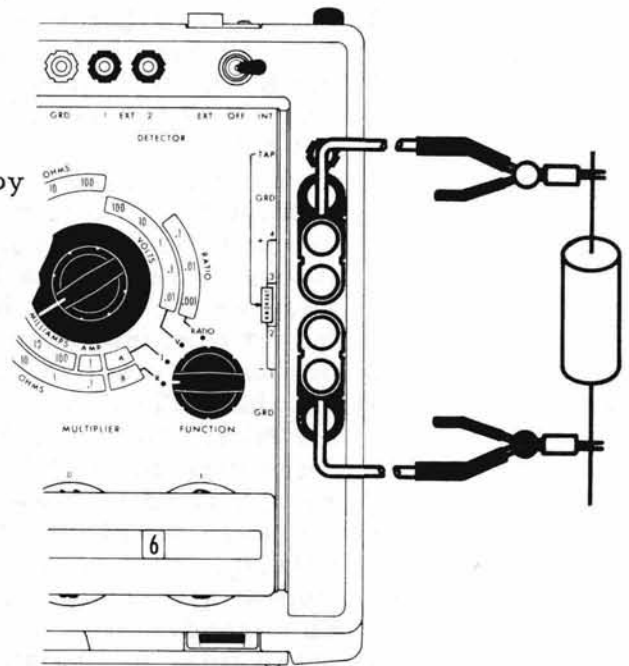

Figure 2.7 - Resistance Measurement
- 7) Connect test resistor to UNKNOWN terminals. See Figures 2.7 and 2.8 for connections.